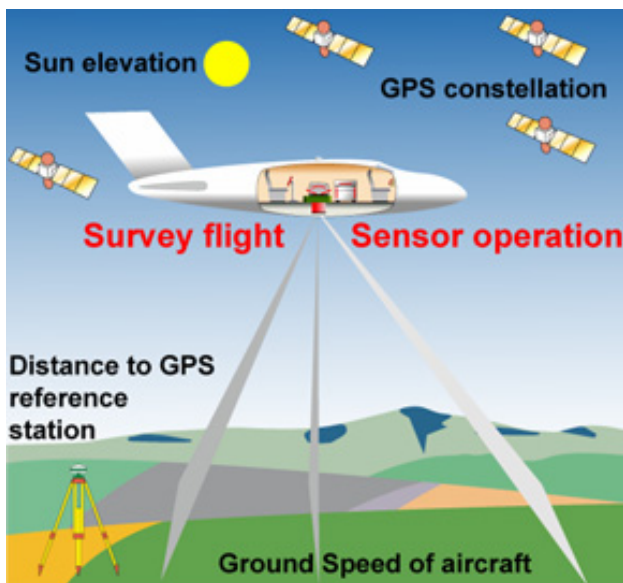

Figure 1. ADS40 sensor system from the user's point
Figure 1 illustrates the ADS40 sensor system from the user's point of view. The typical user's task during a survey mission is sensor operation and survey flight execution. As usual for all airborne sensors, limiting parameters must be taken into account. The main factor is ground speed of the aircraft (GS) which must not exceed given limits. Without this parameter, frame pictures cannot be taken with the desired overlap or in case of the push-broom type sensor ADS40 the ground pixels are stretched in the flight direction. To benefit from the advantages of GPS/IMU systems, GPS constellation as well as the distance from the survey area to the GPS reference